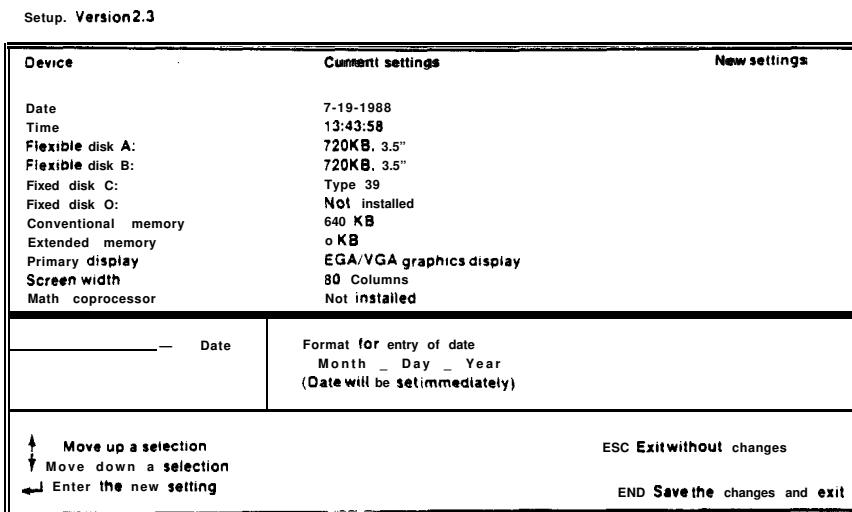

Figure 9. New CPU SET-UP Screen
71. Wait until the MCA has completed Level 0 Diagnostics and the screen prompt "SET-UP Flu. Press "F1" the screen should appear as shown in Figure 9.
72. Using the Up and Down Cursor Keys position the highlighted area over the desired selection or device. Enter the correct information (see Figure 9) from the keyboard and press the "ENTER" to change to the selection just entered. Listed below are the proper setting for each device for the MCA.